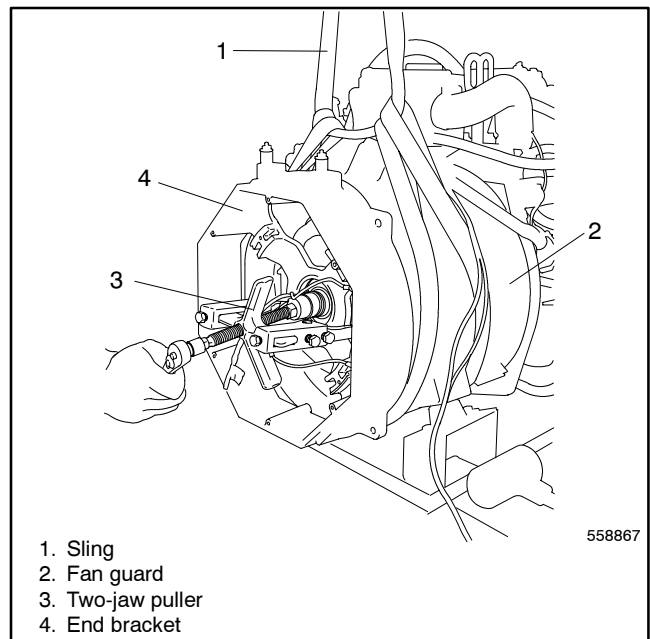

Figure 9-6 Stator Assembly Removal
19. Install a sling on the stator housing. See Figure 9-6.
20. Use a two-jaw puller to pull the end bracket/stator assembly from the bearing on the rotor shaft. See Figure 9-6.